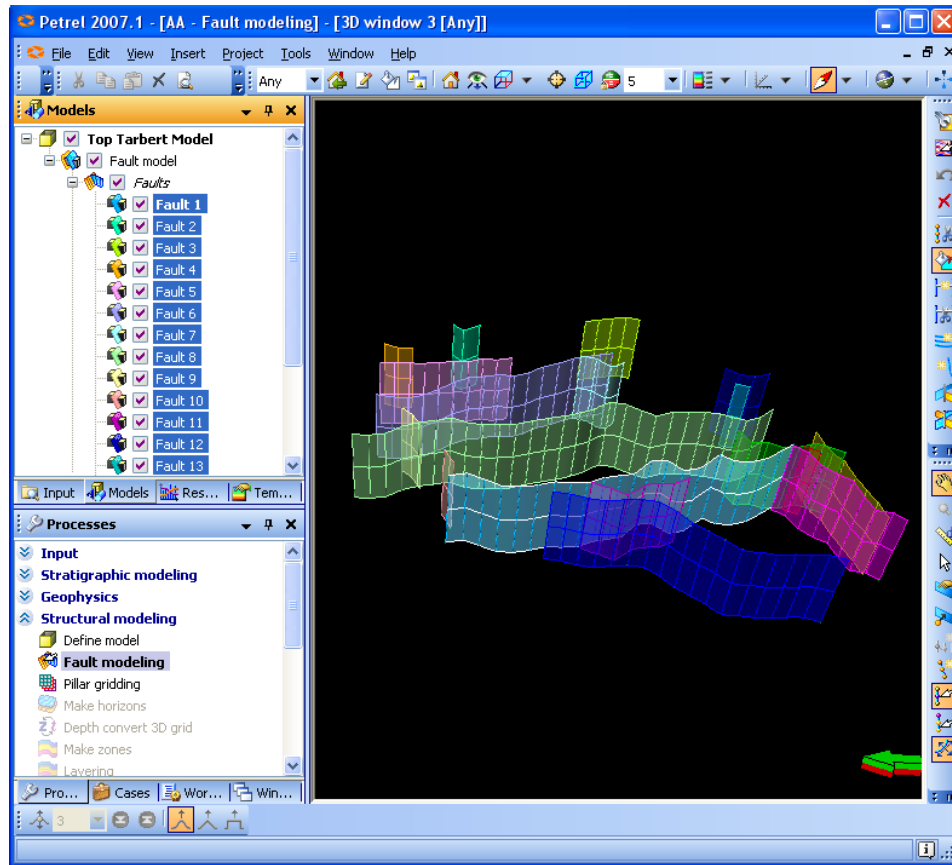

Fig. 11.28: All faults created as a model
9. Continue modeling all the faults in the folder. As shown in Fig. 11.28.